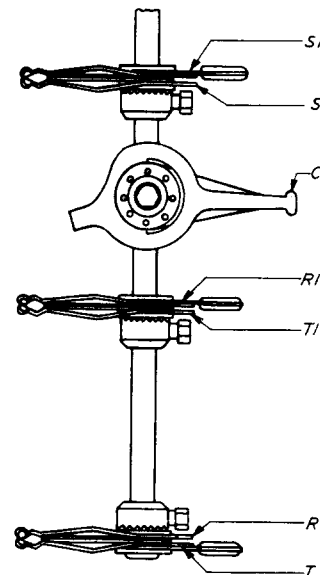

Fig. 92 - Bank Wiper Terminal Designations —
3.03 Wipers: When it is necessary to connect to one or more wipers of a switch, the wipers to which connections should be made are indicated by the symbol WPR followed by the particular designation of that wiper as shown on the associated circuit schematic drawing. The bank wipers referred to in the circuit requirements table appear on the schematic drawing in the same order in which they are located on the switch shaft. Fig. 92 shows the relative location of the wipers on a 200-point line finder and the designations given for them on the schematic drawing. On switches having four bank wipers, the wipers are designated as shown in Fig. 92 except that the added wiper at the bottom has the designation A1 and A.